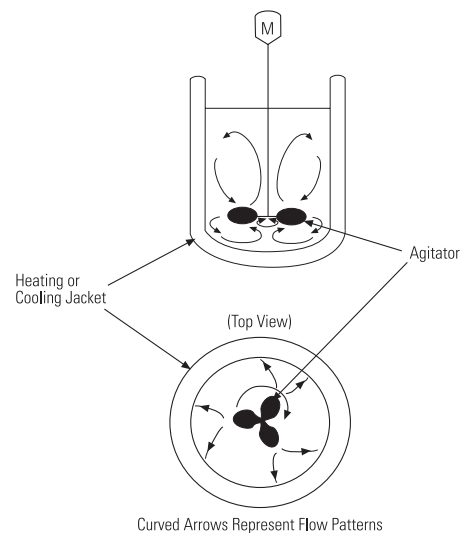
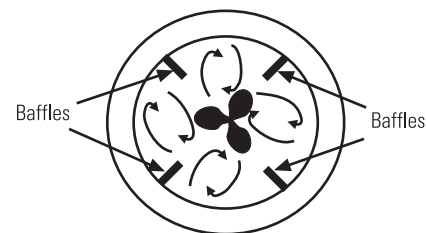

Figure 1. Liquids and Slurry Mixing Tank
Figure 4. Flow patterns with baffles.
Three components for the motion are identified as radial flow (outward from an agitator), axial flow (parallel to the agitator arm), or angular flow (parallel to the vessel wall in a horizontal plane). The first two types are essential for effective mixing. Angular flow is undesirable, because it means that the fluid is orbiting around the agitator (pockets moving in parallel), but little mixing is occurring. Patterns are illustrated in figure 1.
See Figure 1 which shows a mixing tank and its components. Major equipment for this discussion is the vessel, agitator, and baffles.
C. Baffles - Baffles are obstacles or barriers that are positioned parallel to the agitator arm at the edge of a tank wall as shown in figure 4. They inhibit tangential flow without affecting the radial component. (See figure 1). Typically, four baffles are adequate unless the tank has an unusually large diameter.